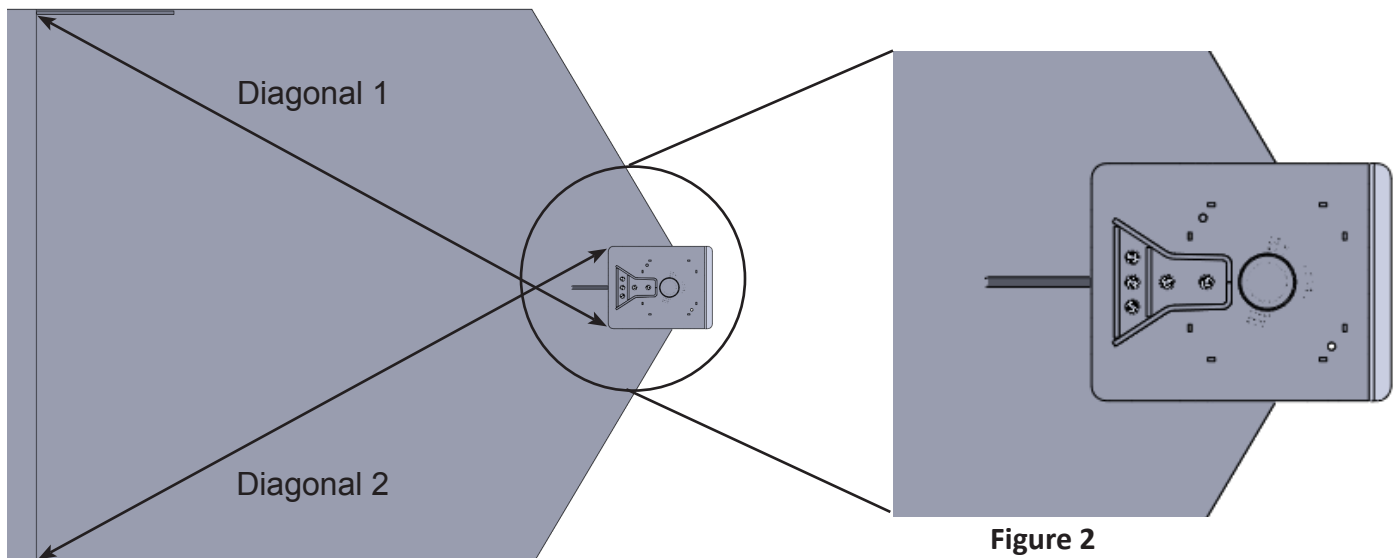

Figure 2
2. Verify that the Adapter is set square to the trailer by measuring on the diagonal from identically opposite points as illustrated in Figure 2 below.